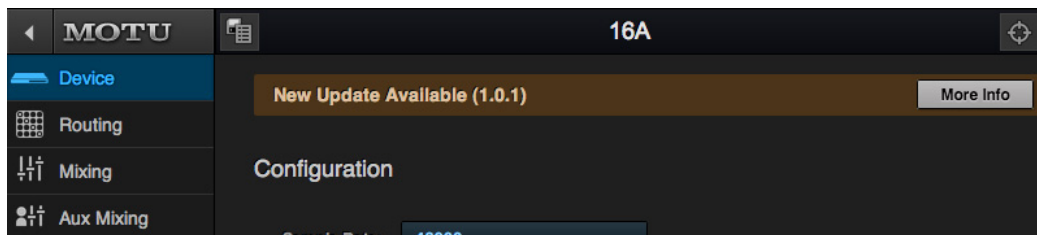

Figure D-1: The firmware update banner appears across the Device tab when your web host has internet access and MOTU posts an update.
- 3** In the *New Update Available* banner (Figure D-1), click *More Info*.